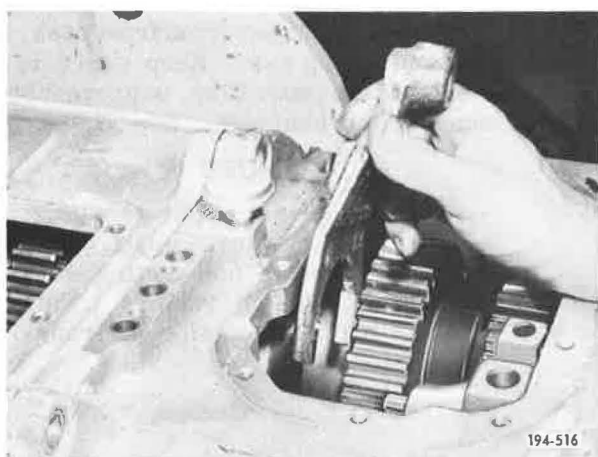

Figure 5-688. Removing Shift Fork
22. Remove second/third speed shift fork. See **Figure 5-688**.